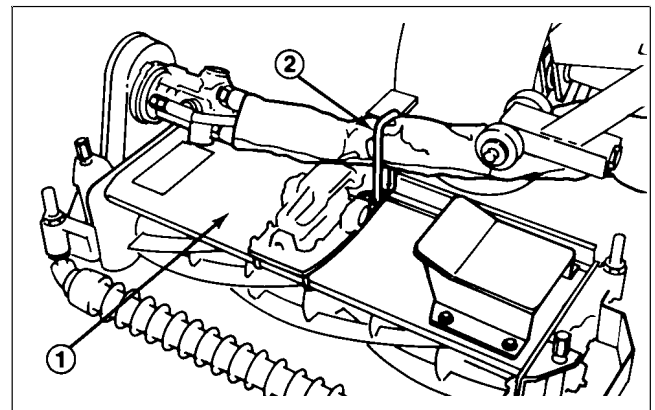

Figure 15
1. Lock each cutting unit in the fixed position (Refer to Cutting Unit Orientation, Fig. 15. Set the reel to bedknife adjustment and height-of-cut adjustment.
5. Using one of the rear "U" bolts and nuts securing mounting kits to cutting units #2 and #3, mount a hose bracket to each cutting unit as shown in Fig. 15.